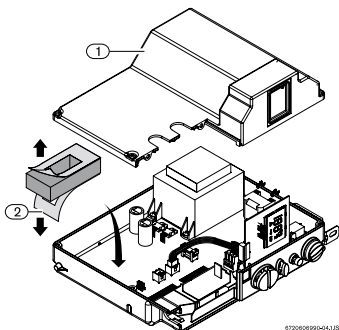

Fig. 3
- ▶ Open control box top cover (Fig. 3, pos. 1).
- ▶ Remove the protective cover (Fig. 3, pos. 2) from one face of the support and fix it to the main PCB as shown in Fig. 3.